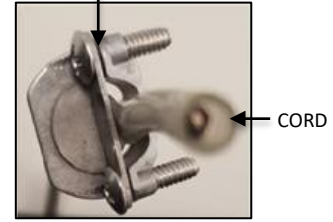

FIG. 13 – STRAIN RELIEF WITH CORD INSERTED
- Insert cord through the strain relief and tighten two screws on the strain relief (as shown in FIG. 13) above hanging bracket where marked. If screws are not properly tightened cord could slip through the strain relief, causing the fixture to fall.